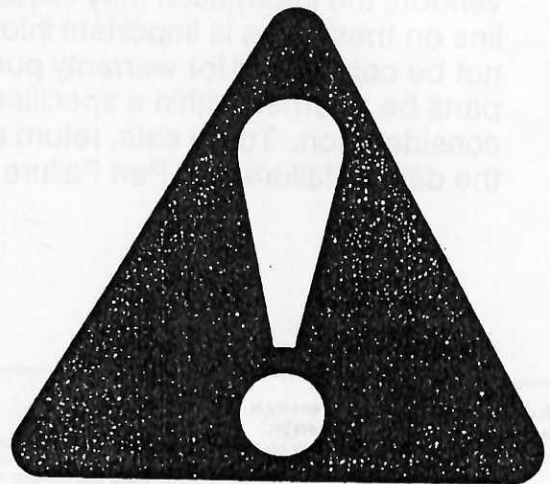

FIG. 1—SAFETY-ALERT SYMBOL
3.1 The Safety-Alert Symbol shall be an equilateral triangle with rounded corners and with an exclamation mark located in the center as shown in Figure 1. The dimensions are optional.